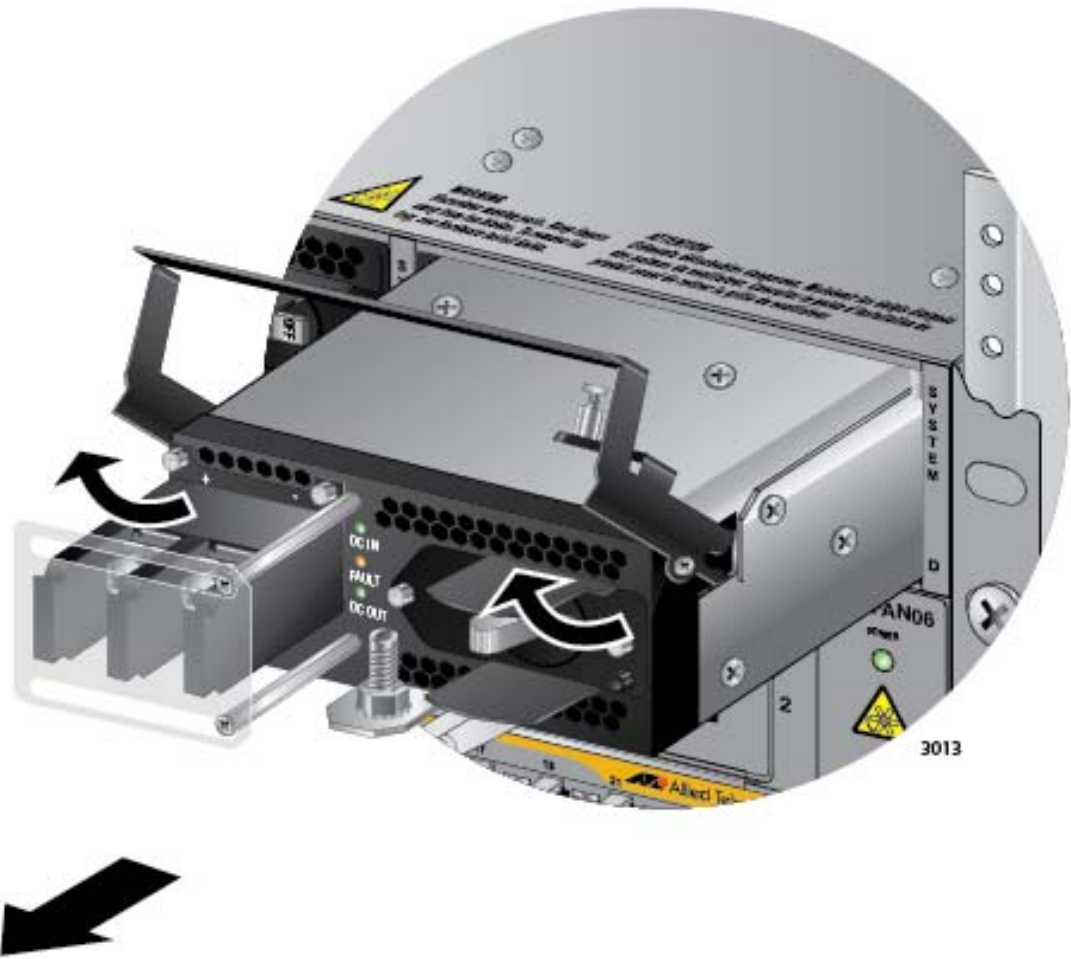

Figure 178. Lifting the Locking Handle and Removing the Power Supply
11. Lift the locking handle and slide the power supply from the chassis. Refer to Figure 178 on page 281.